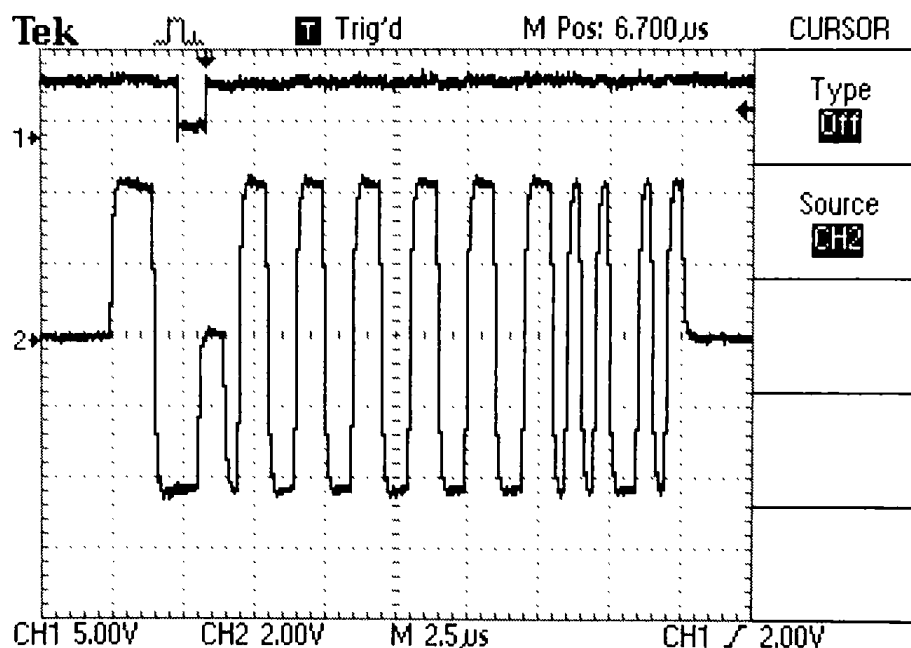

Figure 455-21: Dropped Bit on Position 1
Dropped Bit on Position 1. Follow the steps below to check the ability of the WA73A-455 to place a dropped bit on position 1. Refer to Figure 455-21.
3. Verify that there is a dropped bit in position 1, as Figure 455-21